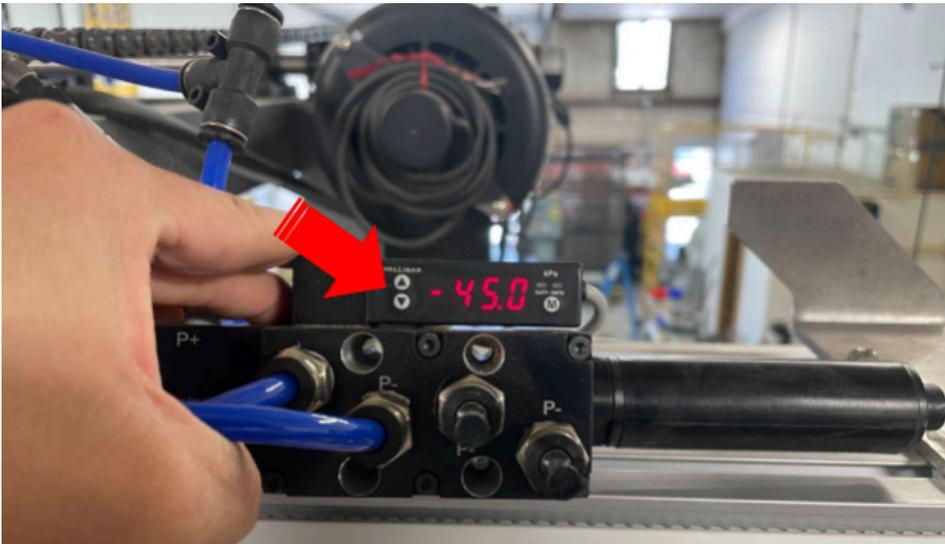

Fig. 8: Adjust pressure setpoint value using Up and Down Arrow buttons
- Use the Up and Down Arrow buttons to adjust the setpoint to the desired value as shown in Fig. 8.